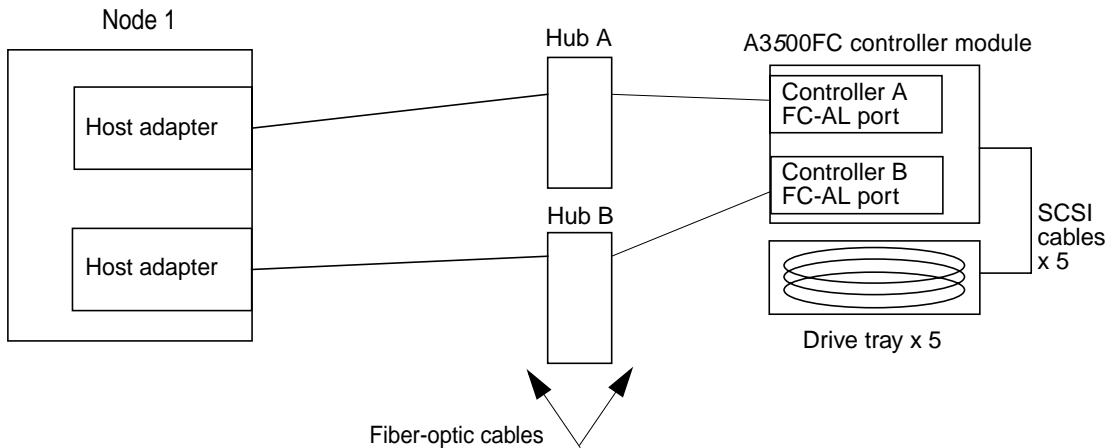

FIGURE A-4 Sample StorEdge A3500FC Cabling (1st Node Attached)
- If you are installing a StorEdge A3500FC system, see FIGURE A-4 for a sample StorEdge A3500FC cabling connection. The example shows the first node connected to a StorEdge A3500FC controller module.